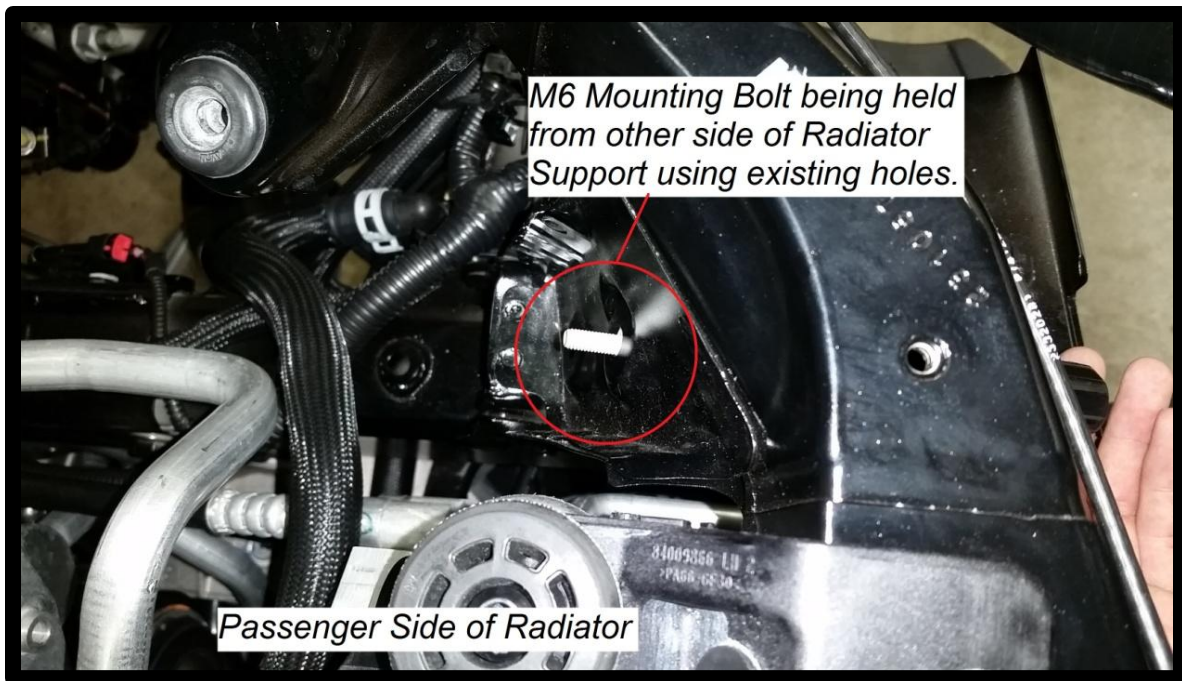
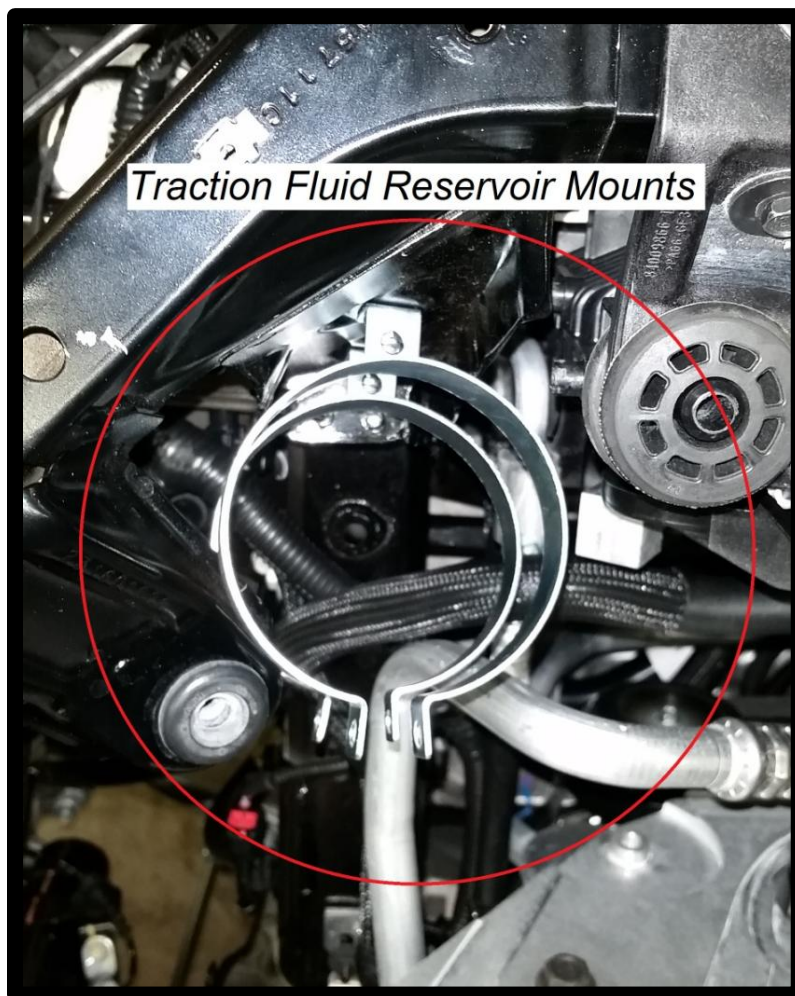

Figure 54: Traction Fluid Reservoir Location
Figure 55: Install Traction Fluid Reservoir Mounts
22. Now the traction fluid reservoir will be installed. The traction fluid reservoir is to be mounted to the left (driver side) of the radiator on the radiator support using existing holes and the remaining two provided M6X1.0X16MM Bolts and M6x1.0 Locknuts. Using a suitable socket/extension carefully slip the M6 bolt through the provided hole in the frame and out the other side as shown in Figure 54. Then install the oil reservoir mount and M6 nut as shown in Figure 55. Only hand tighten the hardware for the mounts as they may have to be rotated when installing the reservoir. Note: It is sometimes helpful to use grease on the head of the bolt to help hold it onto the socket when installing through the radiator support.